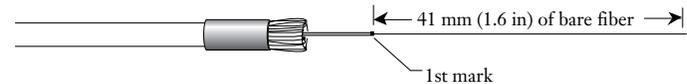

Figure 5-24
- 5.5-9 Remove approximately 41 mm (1.6 in) of coating to the first mark with the 203  $\mu\text{m}$  No-Nik tool (Figure 5-24).